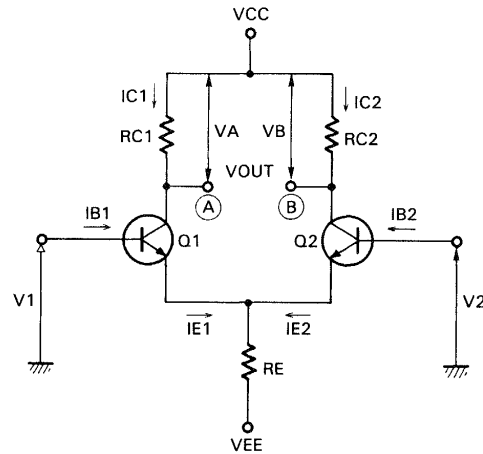

Fig. 35 Differential amplifier
Fig. 35 shows a typical differential amplifier composed of two transistors of equal characteristics and three resistors.  $R_E$  is the common emitter resistor for  $Q_1$  and  $Q_2$ . The values of collector resistors  $R_{c1}$  and  $R_{c2}$  are equal. The bases of  $Q_1$  and  $Q_2$  are input terminals. Output signal is taken out between terminals (A) and (B). This is called balanced differential amplifier.